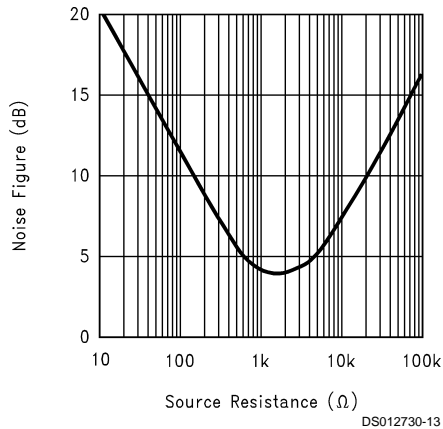

FIGURE 8. Noise Figure vs. Source Resistance
In RF applications, noise is frequently specified as Noise Figure (NF). This allows the calculation of signal to noise ratio into a defined load. *Figure 8* plots the NF for a CLC446 at a gain of 10, and with a feedback resistor R_f of 100 Ω . The minimum NF (3.9dB) occurs when the source impedance equals 1600 Ω .